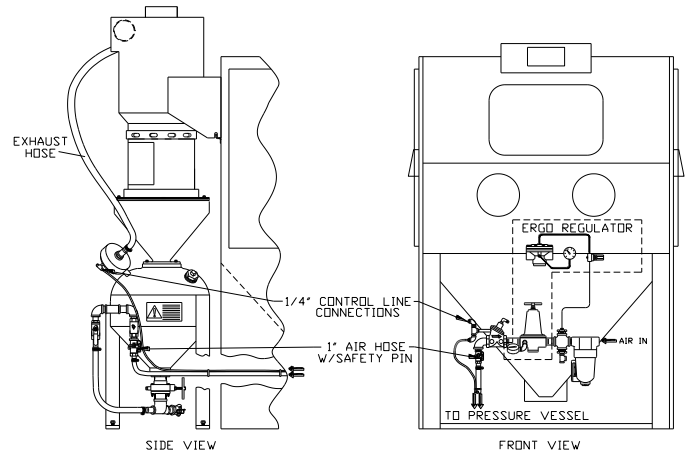

Figure 5. Air Hose Assembly to Pipe String Assembly
Step 8: Connect the quick coupling ends of the air hose / tubing harness and to the 1" pipe string on the front of the cabinet and on the vessel. See Figure 5.
Step 9: Install the safety pin through the holes in both halves of each quick coupling. See Figure 5.
Step 10: Connect the harness 1/4" O.D. control tubing to the exhaust valve and air valve fittings as shown in Figure 5. Making sure the connection is tight.